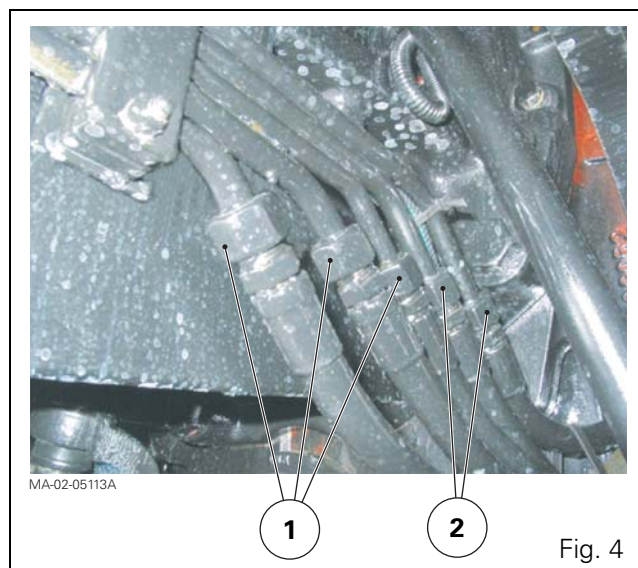

Fig. 4
- the rigid pipes (1) (Fig. 4) (pressure, return and LS) to the suspended front axle (if fitted);
- the rigid pipes (2) (Fig. 4) to the front linkage (if fitted).